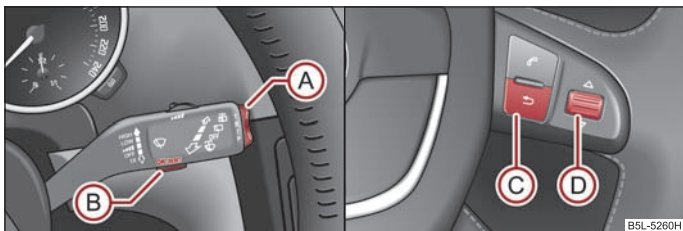

Fig. 19 Multi-functional indicator: Controls on the windshield wiper lever/controls on the multi-function steering wheel
Switching over the memory with the help of the button **(B)** ⇒ page 20, fig. 19 on the windscreen wiper lever or with the help of the button **(D)** on the ⇒ page 20 multi-function steering wheel.
The rocker switch (A) ⇒ fig. 19 and the button (B) are located on the windshield wiper lever. Switching over and resetting is performed with the handwheel (D) on the multifunction steering wheel.
If the outside temperature drops below +4 °C, a snow flake symbol (warning signal for ice on the road) appears before the temperature indicator and a warning signal sounds. After pressing the rocker switch (A) at the windshield wiper lever ⇒ fig. 19 or the button (C) at the multifunction steering wheel ⇒ fig. 19, the function shown last is indicated.
windshield wiper lever ⇒ fig. 19 or the handwheel ⓐ on the ⇒ fig. 19 multifunction steering wheel for longer than 1 second.
If you wish to determine the average fuel consumption over a certain period of time you must set the memory to zero at the start of the measurement using the button Ⓑ on the windshield wiper lever ⇒ page 20, fig. 19 or with the handwheel ⓐ on the multifunction steering wheel ⇒ page 20, fig. 19. A zero appears in the display for the first 100 m you drive after erasing the memory.
The distance driven since the memory was last erased appears in the display ⇒ page 19. If you wish to measure the distance driven of a particular time, you must set the memory to zero at this moment in time by pressing the button Ⓑ on the windshield wiper lever ⇒ page 20, fig. 19 or the handwheel ⓐ on the multifunction steering wheel ⇒ page 20, fig. 19.
The average speed since the memory was last erased is shown in the display in km/hour ⇒ page 19. If you wish to determine the average vehicle speed over a certain period of time you must set the memory to zero at the start of the measurement using the button Ⓑ on the windshield wiper lever ⇒ page 20, fig. 19 or with the handwheel ⓐ on the multifunction steering wheel ⇒ page 20, fig. 19.
- With the (A) button on the multi-function steering wheel ⇒ page 20, fig. 19 or the handwheel (D) on the multi-function steering wheel ⇒ page 20, fig. 19, choose the menu point **Warning against excessive speeds**.
- Choose the (B) button on the multi-function steering wheel, or the handwheel (D) on the multi-function steering wheel, to activate the option for setting the speed limit (the value flashes).
- Use the (A) button on the windshield wiper lever or the handwheel (D) on the multi-function steering wheel to set the required speed limit., e.g. 50 km/h.
- Use the (B) button on the windshield wiper lever or the handwheel (D) on the multi-function steering wheel to confirm the required speed limit, or wait around 5 seconds. The setting saves automatically (the value stops flashing).